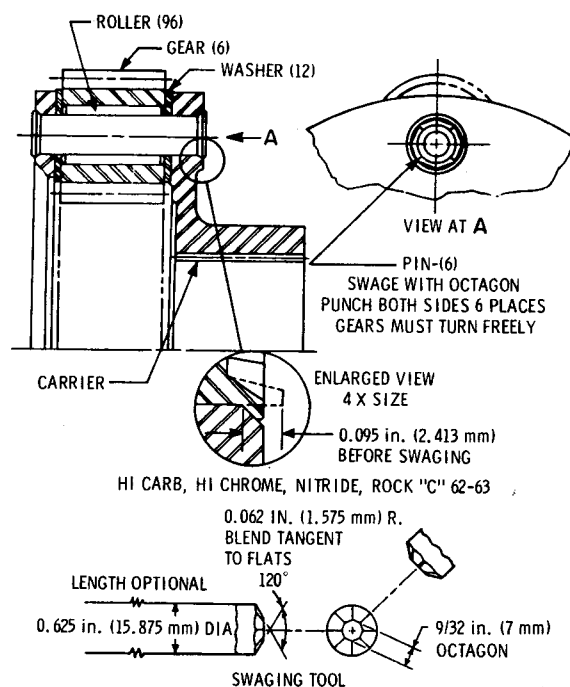

Fig. 6-23. Low-range planetary carrier assembly—cross section
a. Disassembly (B, foldout 11, and fig. 6-23)
(1) Position carrier assembly 8 (B, foldout 11), flat side down, on a drill press table.
(2) Using a 1/2-inch (12.7 mm) twist drill, centered accurately, drill the end of each pinion pin 12 to weaken the staking.
(8) Repeat procedures (3) through (7), above, for the remaining pinion groups. Aline the pinion groups in the carrier by inserting the alining tool into each spindle bore.
(9) Press new spindles through the carrier and pinions until they project 0.095 inch (2.413 mm) from the inner ends of the counter-sinks at the rear (webbed side) of the carrier (see inset detail of fig. 6-23).
(10) On CRT 3531 models, stake both ends of the spindles as indicated in figure 6-23. On CRT 3630 models, stake both ends of the spindles with a rounded punch (0.060 inch (1.524 mm) radius) at eight places, equally spaced on each spindle end. Use care during staking operations to maintain the 0.095 inch (2.413 mm) dimension (see fig. 6-23).
(11) Install seal 15 (and expander 18 on later models) onto piston 16. Refer to paragraph 6-16c(12) through (14), above, for piston seal and expander installation.